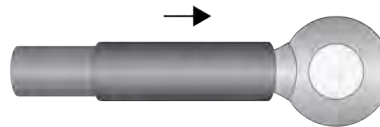

Figure 36. Sliding the Heat-Shrink Tube Over the Ring Terminal Lug
- Slide the heat-shrink tube over the shaft of the ring terminal lug. Refer to Figure 36.